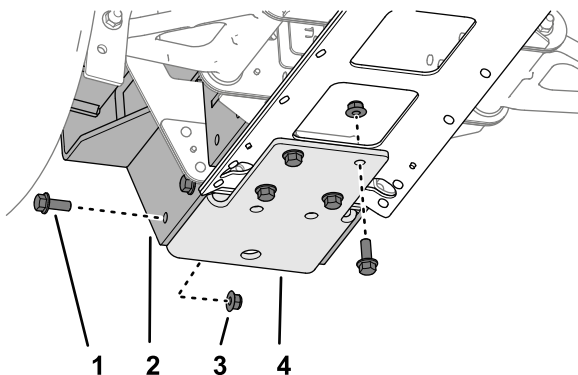

Figure 52
1. Loosely assemble the bottom bracket, ball-picker mount and center-channel plate as shown in Figure 52 with 8 flange bolts (3/8 x 1 inch) and 8 flange locknuts (3/8 inch).
3. Remove the 8 flange bolts (3/8 x 1 inch), 8 flange locknuts (3/8 inch), bottom bracket, and ball-picker mount from the machine (Figure 52).